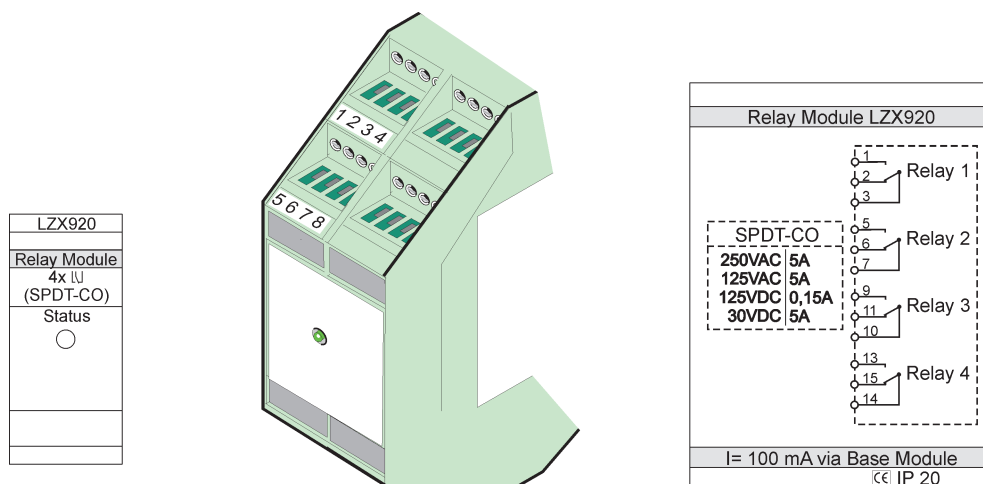

Figure 77 External relay module
3. Make the appropriate connections as shown in Figure 77 and Table 50.